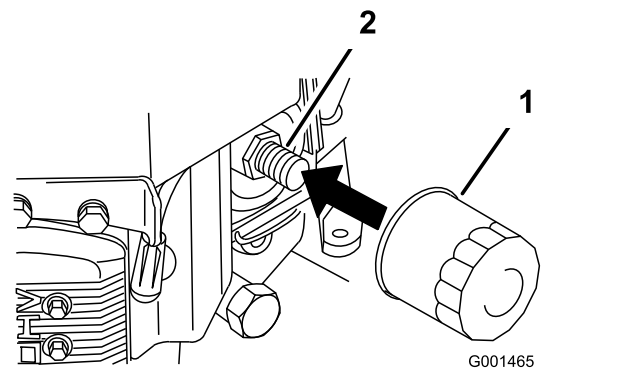

Figure 24
2. Remove the old filter (Figure 24).
3. Apply a thin coat of new oil to the rubber gasket on the replacement filter (Figure 24).
4. Install the replacement oil filter to the filter adapter, turn the oil filter clockwise until the rubber gasket contacts the filter adapter, and tighten the filter an additional 3/4 turn (Figure 24).